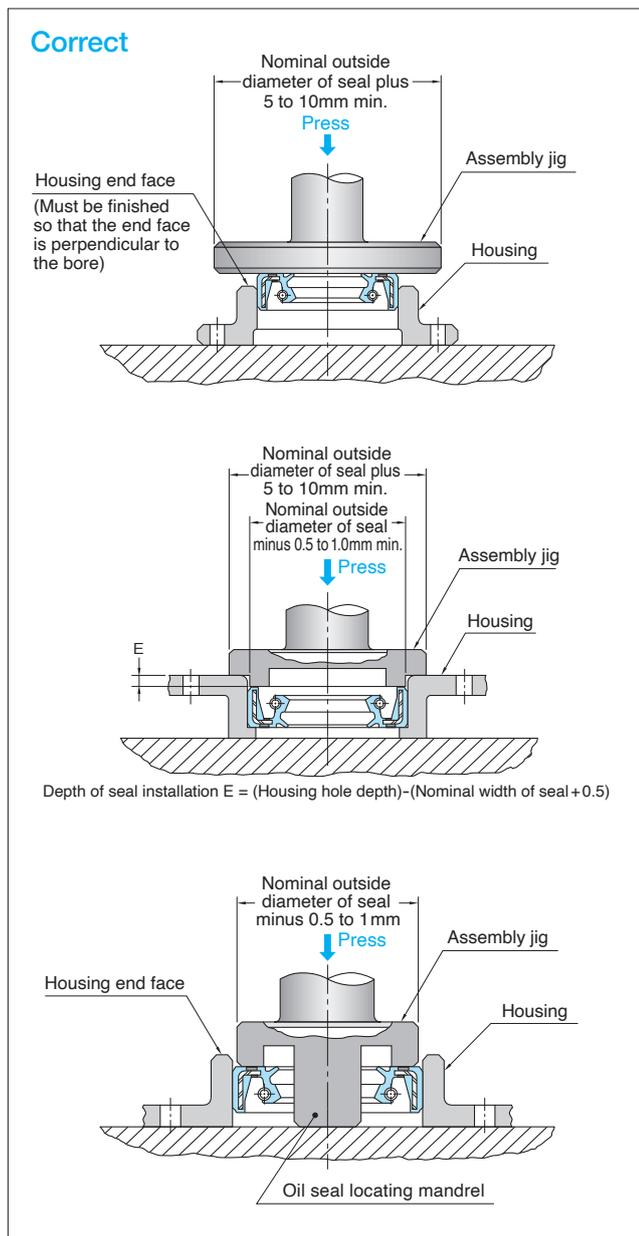

Fig. 7-5 Use Examples of Assembling Jig (applicable to the fit with rubber or metal)
- ❷ Install the seal squarely using the jig as illustrated in Fig. 7-5.